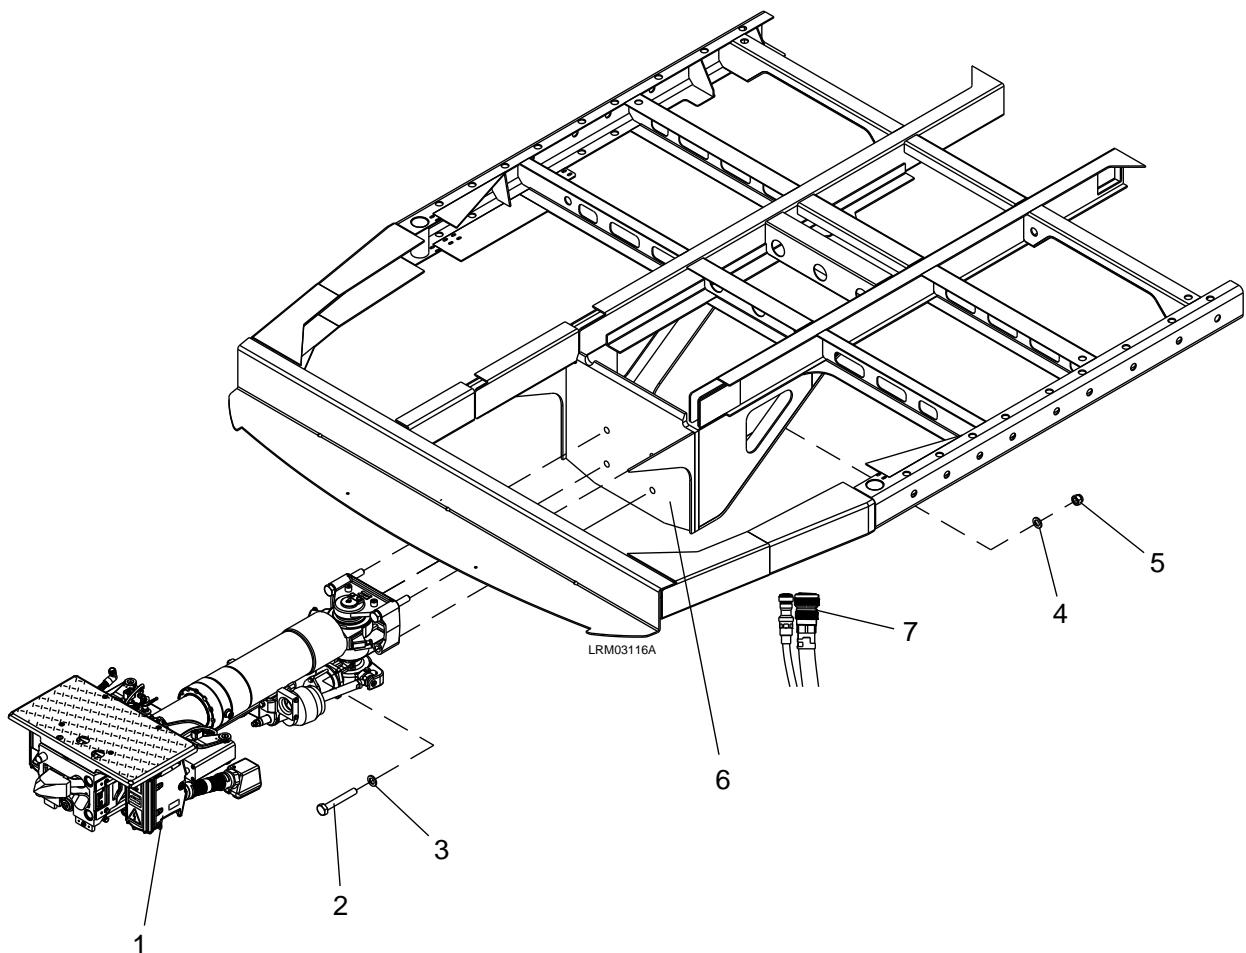

Figure 7-102: Coupler
1. Disconnect the electrical connectors (7) to the car body. See Figure 7-102.